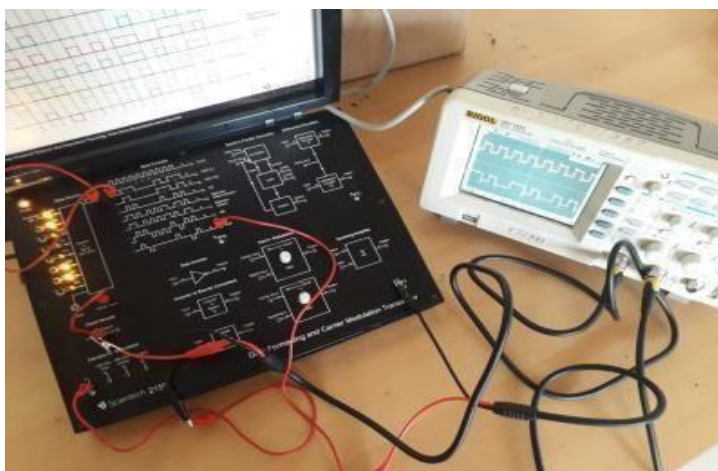

Figure 1.4: Practical set up for line code
- 1) Make the connections as shown in figure 1.4